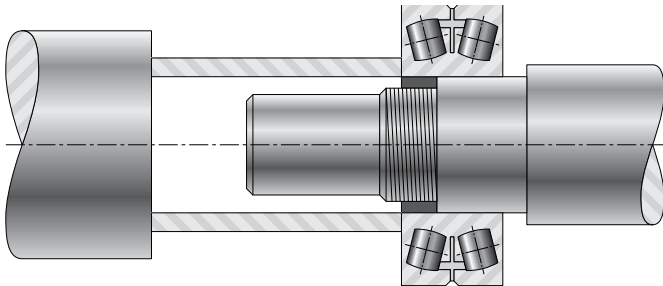

Fig. 9. Positioning the tube on the inner ring.
- Position the tube on the inner ring and apply steady pressure with sufficient force to smoothly press the ring into place, and firmly against the shoulder or backing surface (Fig. 9).